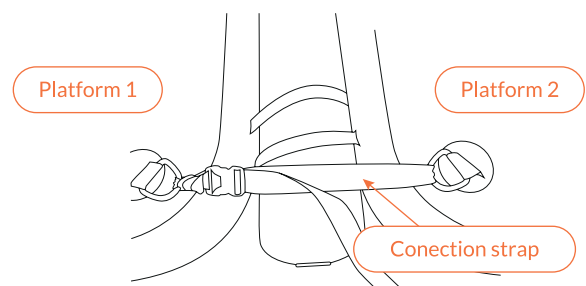

Fig 82 – Connection strap using D-rings between Platforms
5. Secure the Platforms to each other using the connection straps and the D-Rings. Feed the connection straps through the opposite D-Rings of each Platform and secure on both sides of the proposed Air Toggle connection (Fig 82).